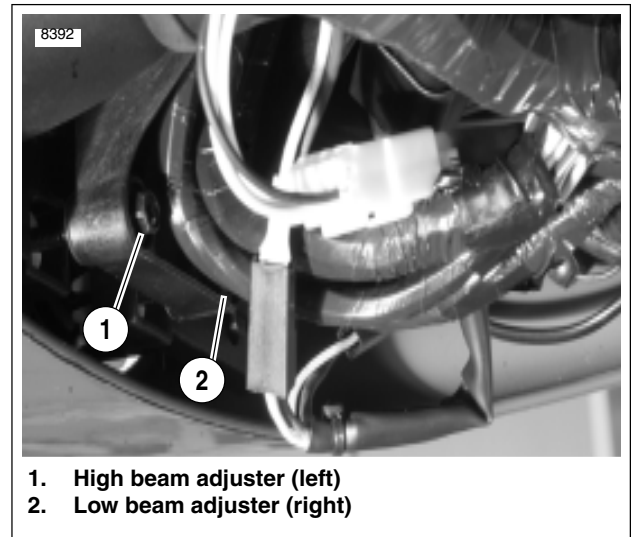

Figure 1-55. Headlamp Height Adjustment
See Figure 1-55. The HIGH Beam adjuster (1) is on the left and the LOW Beam adjuster (2) is on the right underneath the front fairing.